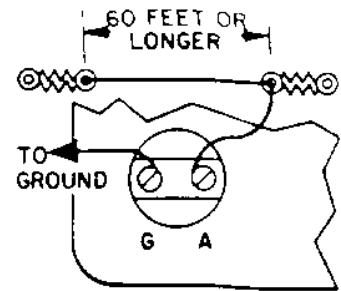
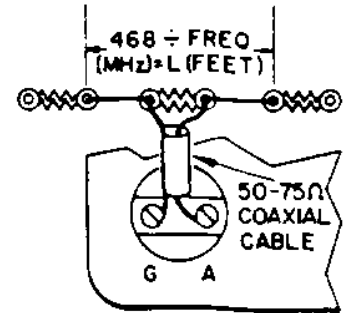
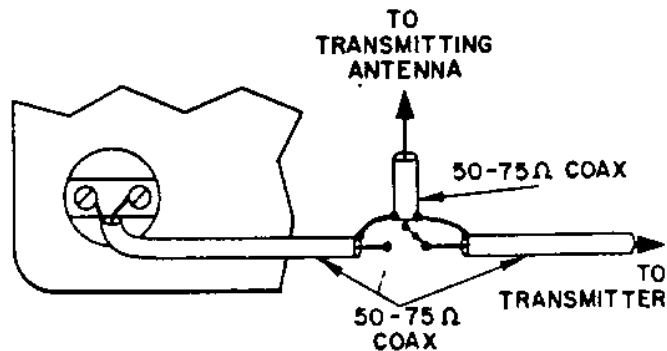

Fig. 1. Long-wire antenna.
Fig. 2. Coax-fed dipole antenna.
Fig. 3. Using switch with transmitter.
**Antennas.** The antenna input of the receiver is designed to work with either a single long-wire antenna (Fig. 1) or a half-wave dipole or other resonant antenna with transmission line impedances from 50 to 75 ohms (Fig. 2). The connections to the
The long-wire antenna (Fig. 1) can be used for all three bands in locations where space is limited. The ground connection should be made to a water pipe (or other good earth ground connection) for best reception. The antenna wire should be elevated above ground as much as possible and be free of obstructions such as tree limbs and buildings.
The dipole antenna (Fig. 2) provides much better performance than the simple long-wire antenna. This antenna has an impedance of approximately 75 ohms, so it gives a good match to the 75-ohm coaxial transmission line. This type of antenna is also the basic transmitting antenna and may be used in conjunction with a novice transmitter if a switch (Fig. 3) is installed in the transmission line.